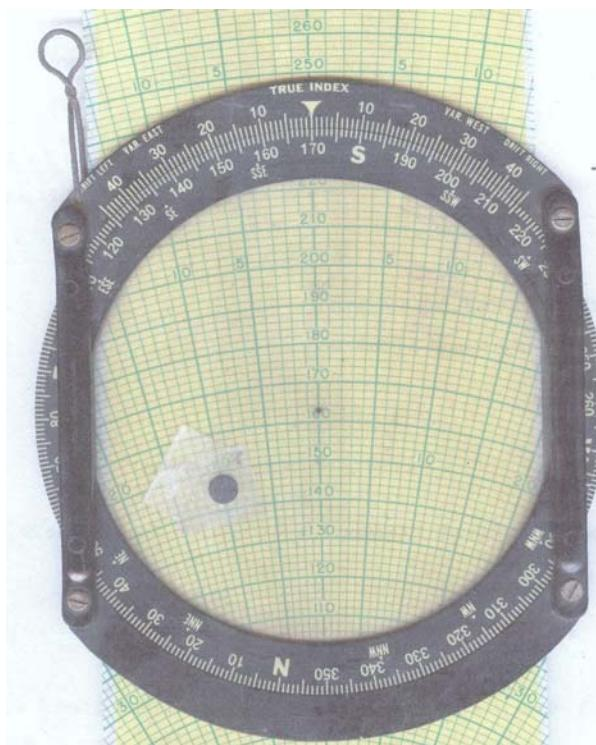

Fig 21: E-6B Wind Face
- b. Rotate the movable ring to place the 170° directly under the true Index per Fig 21.
- c. Position the 163 kts speed arc on the slider under the center mark of the translucent disc. See Fig 21.